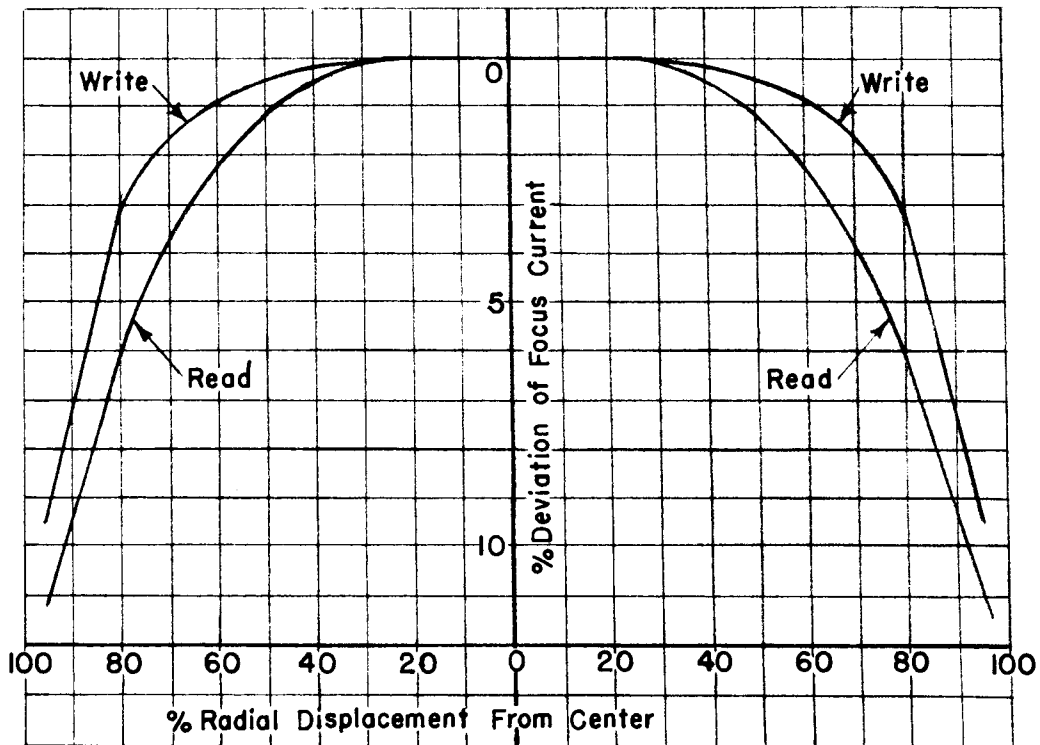

FIGURE 4
FOCUSING TECHNIQUE — Raytheon type BM-411 focus coils (Figure 5) should be used. This provides a tickler coil for dynamic focus correction for optimum resolution across the diameter of the storage surface. Typical current correction curves are shown in Figure 4.
2. Tickler coil is provided to permit dynamic focus correction. See Fig. 4.